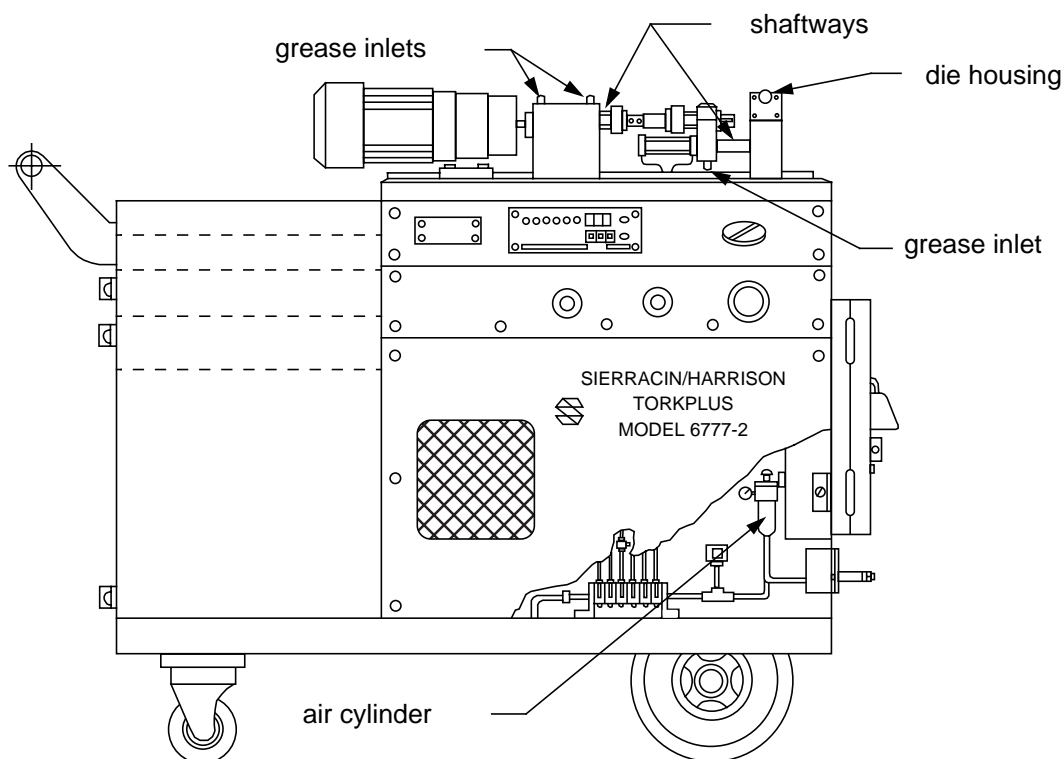

Figure 2 - Components of the Sierracin/Harrison 6777 Swage Machine
- Step 1. Assemble the external swaging tools (i.e., jaw set) specified in Table 4 in the die housing (see Figure 2).
9.1 Check the oil level at the air filter inside the 6777 swage machine (see Figure 2) once a week and lubricate it with SAE 10 phosphate-free oil. If necessary, lubricate the knob in one turn from the closed position.
9.2 Apply general purpose machine lubricant daily to all shaftways (see Figure 2) and hinge points for smoother movement and to prevent corrosion.
9.3 Every month, fill all grease inlets (see Figure 2) with grease.